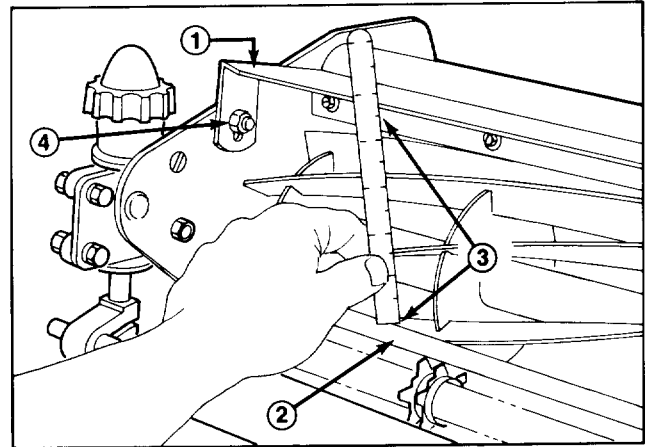

Figure 8
measure distance from top of front crossbar to shield at each end of cutting unit (Fig. 8).
2. Height of shield from crossbar for normal cutting conditions should be 4-3/4 inches. Loosen capscrews and nuts securing shield to each sideplate, adjust shield to correct height and tighten fasteners (Fig. 8).